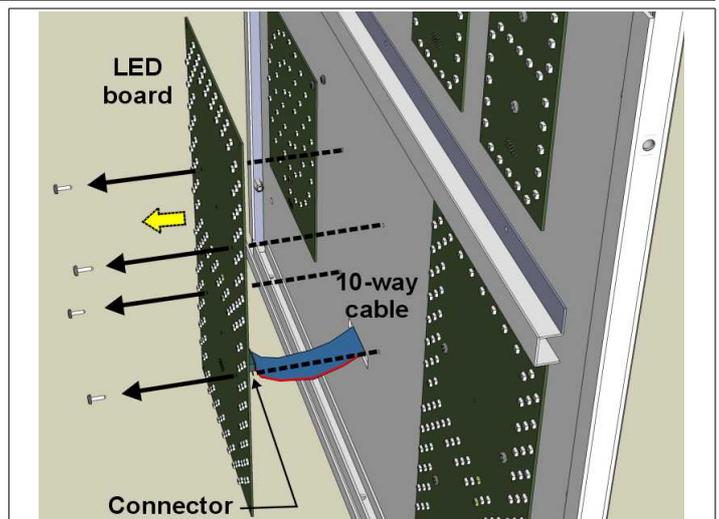

Fig. 20: Replacing a LED display board
- With a screwdriver, remove the screws from the LED display board in need of replacement (Fig. 20); slightly distance the board from its position in order to remove the flat cable connector.